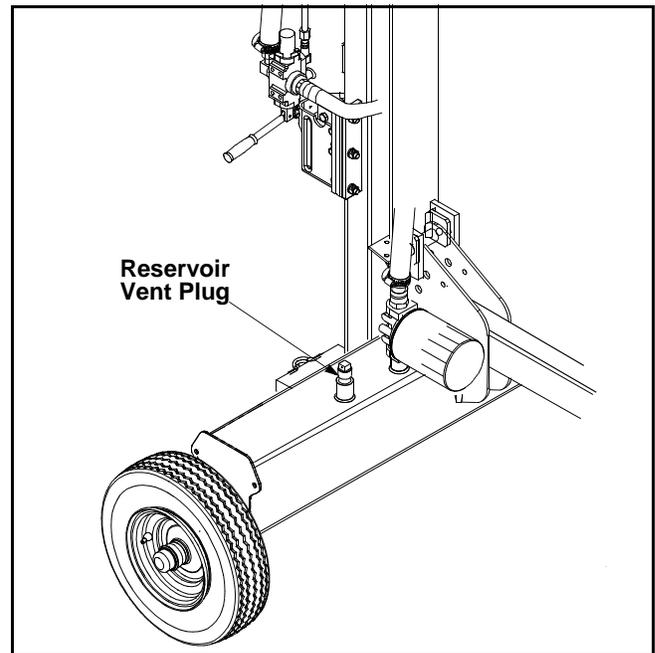

Figure 10
- Remove reservoir vent plug. See Figure 10.